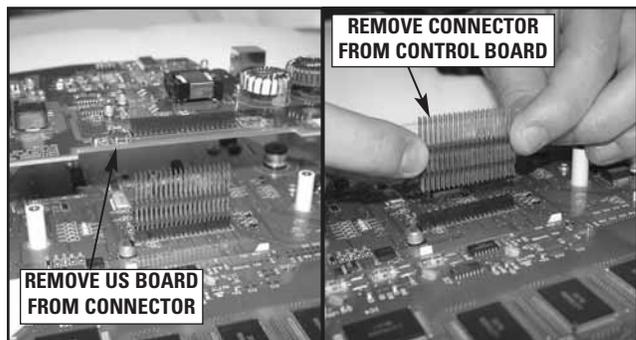

FIGURE 6.14
3. Carefully remove Ultrasound Board from the Control Board/Ultrasound Board Connector. See Figure 6.14.
4. Remove Control Board/Ultrasound Board Connector from the Control Board. Be careful not to bend or damage any of the pins. See Figure 6.14.